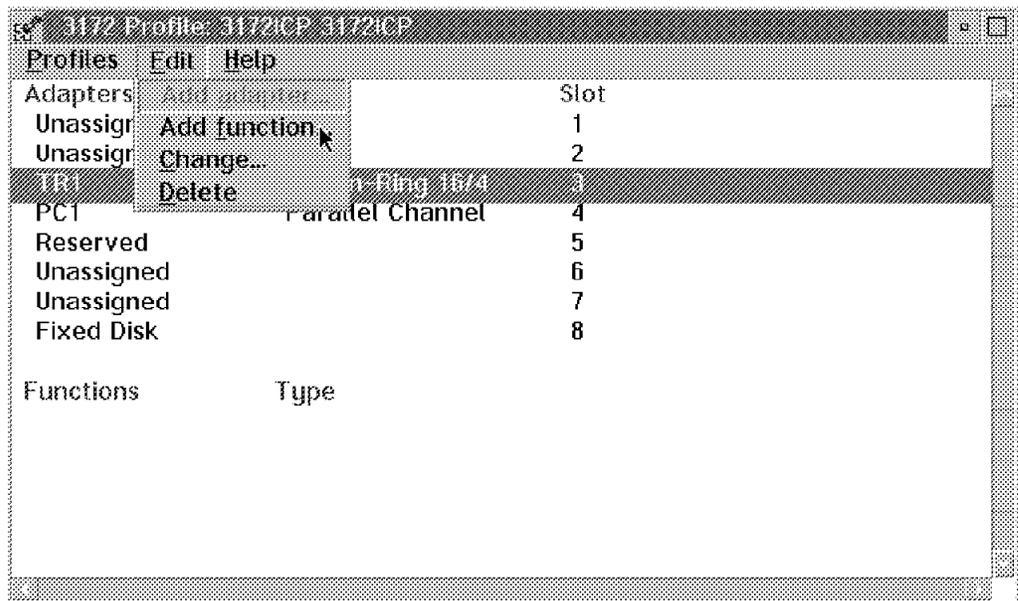

Figure 44. Add Function
The panel shown in Figure 44 appears.
**Note:** It does not matter whether you add the TCP/IP or VTAM function to your Ethernet LAN adapter first. You can always add the other one later. To add the other host program to your adapter, you must return to the panel shown in Figure 44 on page 84 and step through the procedure again.